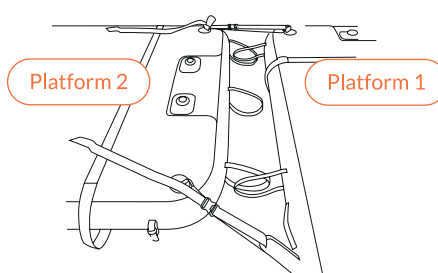

Fig 68 – Both connection straps attached
7. Then secure the other connection strap from the other D-ring of Platform two to the Air Toggle loop at the side of Platform 1. It is important to do this before you inflate the Air Toggle (Fig 68).